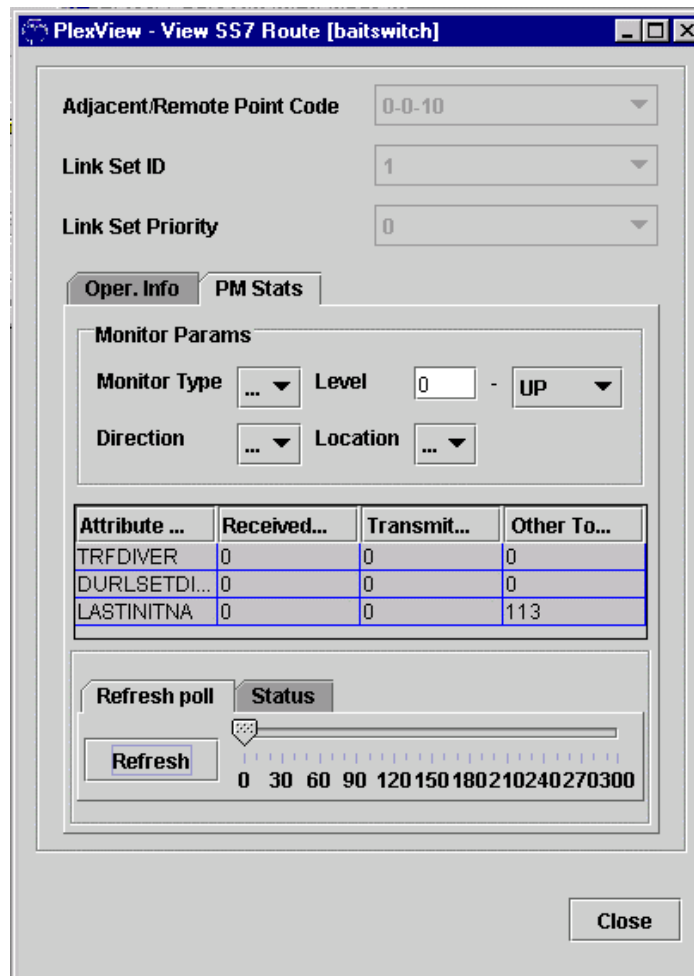

Figure 8. SS7 Route PM Data
41. To retrieve current and historical performance data for an SS7 route, double-click SS7 and then *Routes*. Right-click a route and select *Modify*, *PM Stats* and then click *Refresh* near the bottom of the panel for the latest information. See Figure 8.